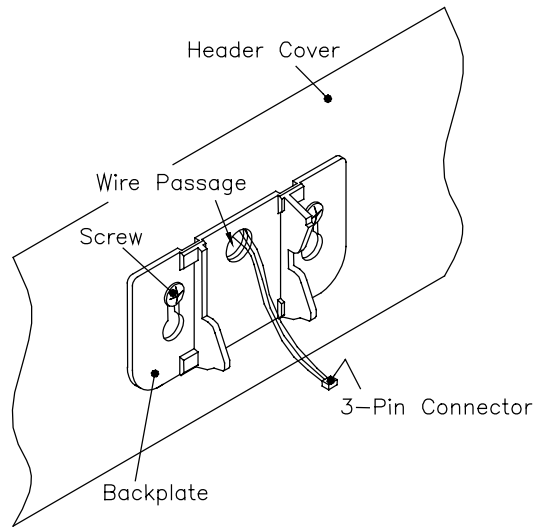

FIG. 2
6. Carefully remove 1 of the color cameras, the housing, and video/power cable (12ft for doors without transom option, 16ft for doors with transom) from their packaging. Insert cable end through wire passage hole on header cover and backplate as shown in FIG. 2.